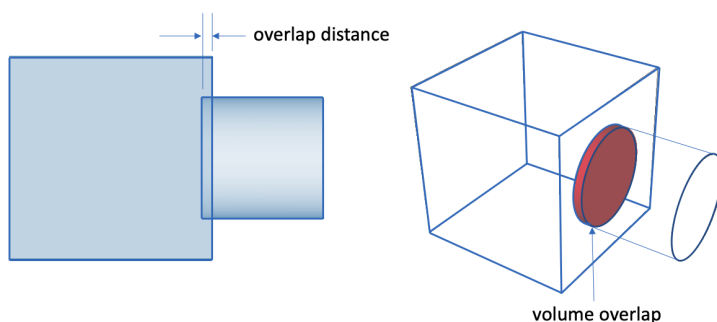

Figure 14. Volume Overlap Example
- **Volume Overlaps** - Lists volume pairs that are overlapping. Figure 14. shows an example of a volume overlap. Overlapping volumes can result in sliver surfaces and bad element quality if they are not resolved prior to imprinting and merging. Overlaps can be displayed with the context menu item, **Draw Volume Overlap** which displays the overlap region in red. The **remove overlap** command or **tweak surface replace** commands can often be used to correct overlaps.